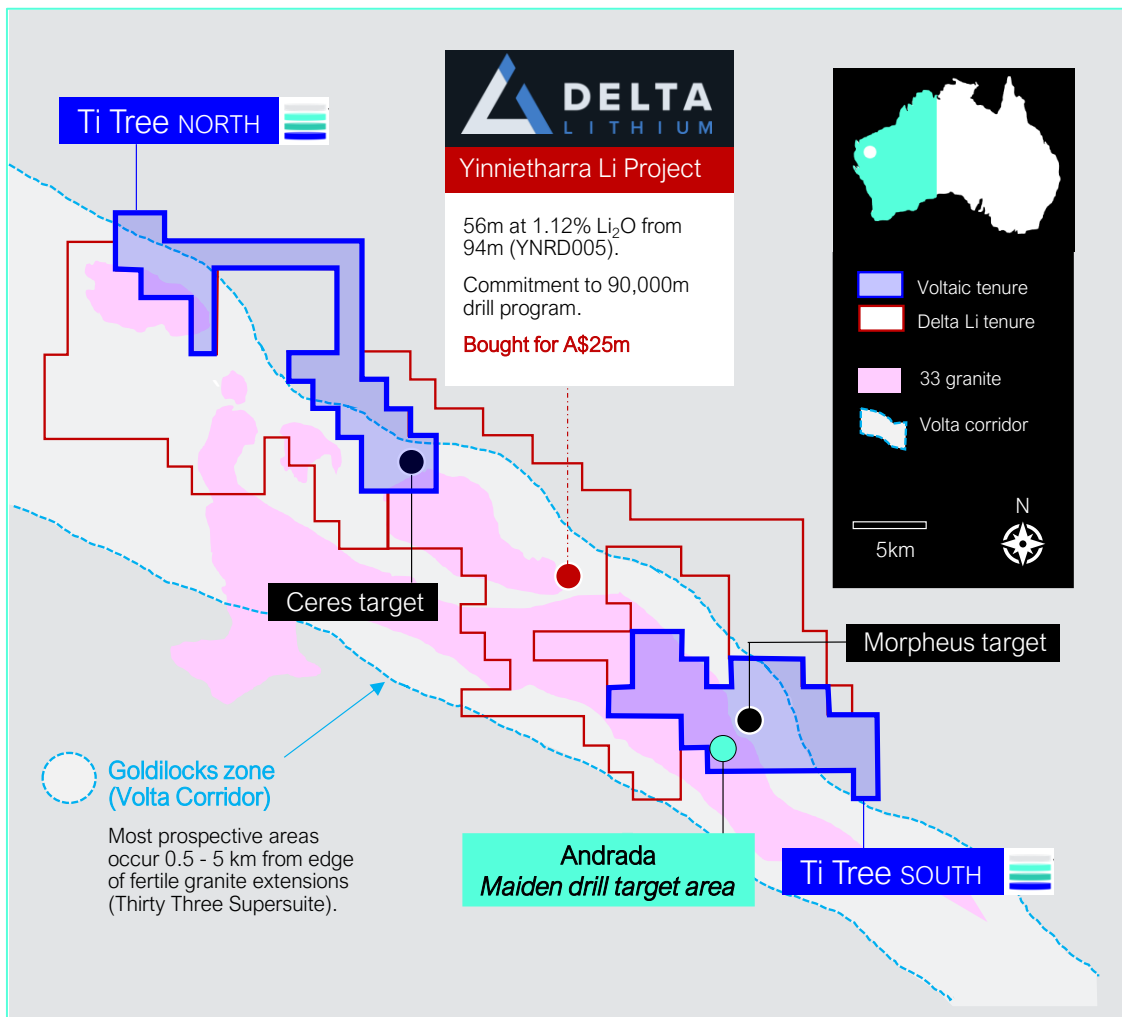

Figure 2. Ti Tree project tenement map. Neighbour Delta Lithium's Yinnietharra tenement also shown.
- Phase 1 drilling complete across six (6) initial targets for 15 drill holes / 894m, with pegmatites intersected in all holes & each remaining open at depth. Assays expected in ~6 weeks.
- **Scale potential:** the Andrada Prospect resides within the 212km2 Ti Tree Project and hosts **>300 mapped pegmatites from surface** with <10% of the tenure explored to date (*Fig. 2*).